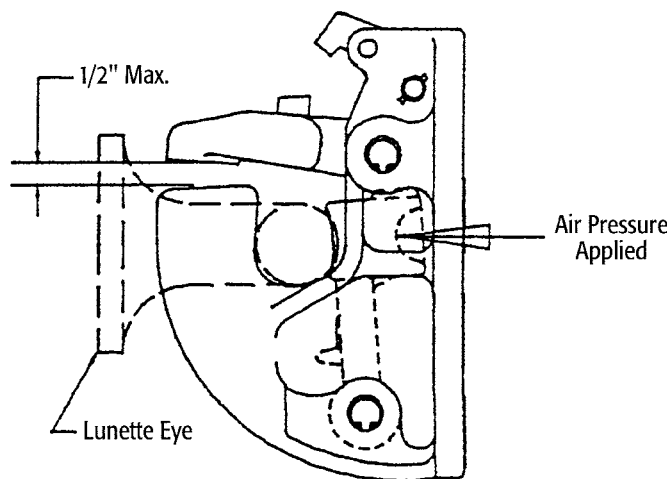

Fig. 2
1. Place a properly matched lunette eye on the hook, lower the Jaw (4) and apply operating pressure to the air chamber.
2. With the Lock disengaged, as shown in Fig. 2 on pg. 2, lift the Jaw (4) until it stops. The secondary interlock feature must prevent the Jaw from opening more that 1/2" above the horn.